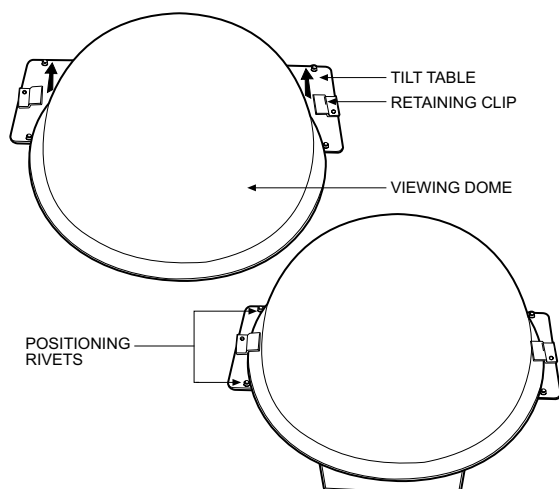
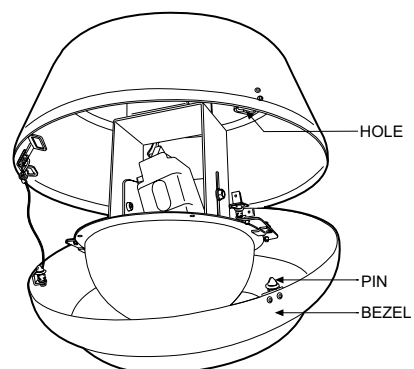

Figure 3. Acrylic Viewing Dome Installation
Figure 4. Lower Dome and Bezel Installation
- ❶ Refer to Figure 3 and install the acrylic viewing dome by sliding one side of the dome under the retaining clips on the tilt table assembly. Seat the dome to the edge of the positioning rivets.
- ❷ Turn the dome so that the viewing slot is in front of the camera lens.
- ❸ Refer to Figure 4 and install the bezel on the back box by lining up the pins with the holes located on the edge of the back box. Apply light pressure to the top of the bezel. Turn the bezel clockwise and release pressure.